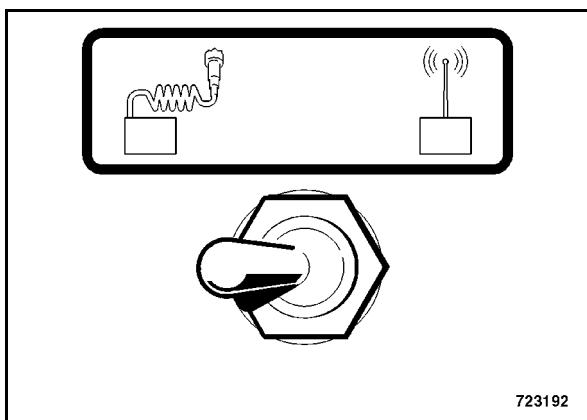

Fig. 82
- Turn the tumbler switch for the cable remote control to position "Left", cable operation (Fig. 82).